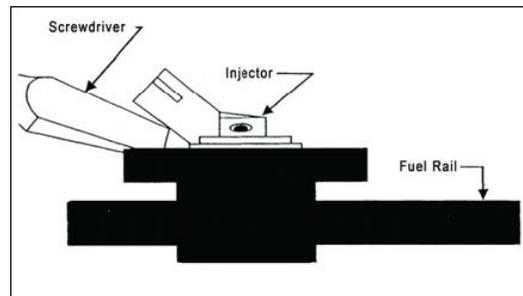

Fig. 3: Subaru
- Using a large flat screwdriver with a 3/8- to 1/2-inch blade, gently pry the injector up by twisting the screwdriver between the underside of the fuel injector connector area and the fuel injector cap mounting area. See Fig. 3.